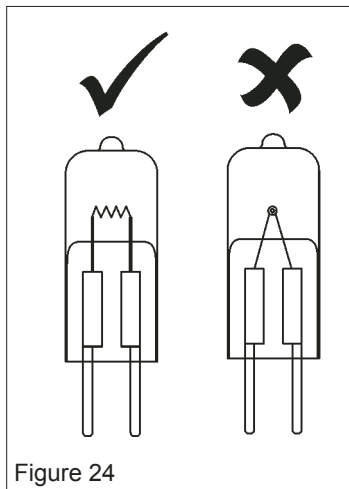

Figure 24
- **Replace the light bulb with a 50W 12V GY 6.35 type halogen bulb ONLY.** Close the access panel. *When handling the light bulb, avoid touching the glass with bare fingers as this will reduce the life of the bulb.* Be careful not to trap wiring between the access panel and heater body. It is important, when buying replacement light bulb, to ensure that the filament is in the correct orientation to the location pins—see figure 24.